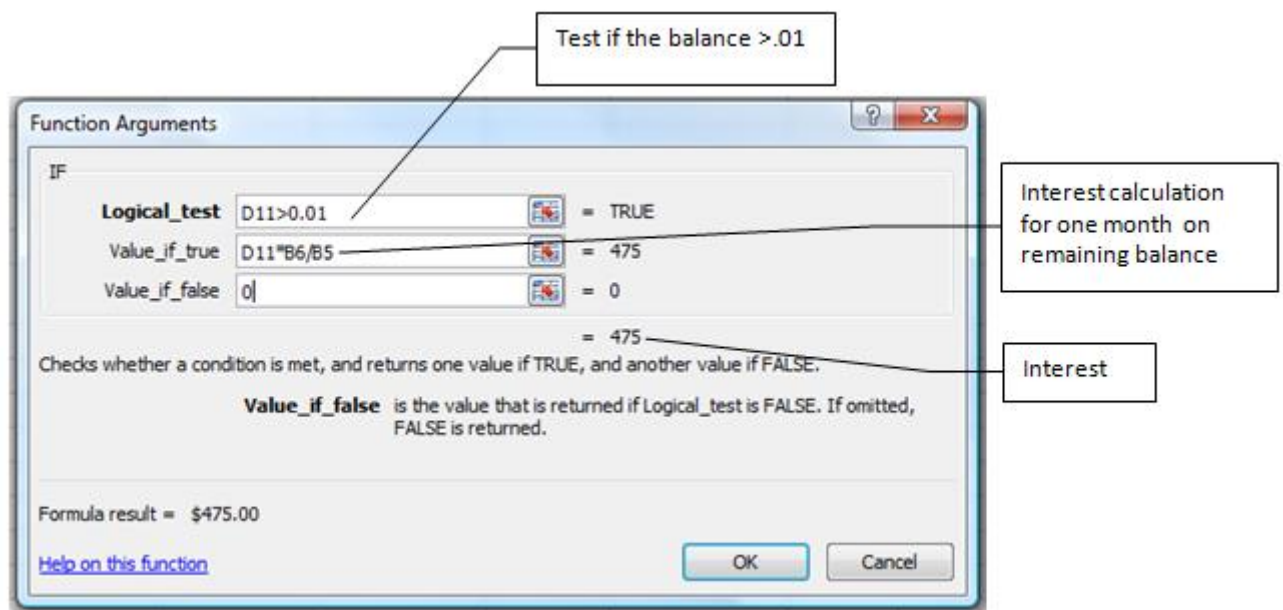

Figure 11.17. If there is a balance the interest on the remaining balance will display.
- Click cell B12 and display the IF Function Argument dialog box. In the Logical_test box type **D11>.01** In the Value_if_true box type **D11*B6/B5** and in the Value_if_False box type **0**. Compare your dialog box with Figure 11.17. The logical test is used to determine if there is a balance owed. It is better to test for a balance that is greater than a penny rather than a balance that is greater than zero because there might be rounding errors where the remaining balance is not exactly zero. If the balance is greater than zero, then the interest for one payment (B6/B5) is applied to the remaining balance. If not, then zero will display.